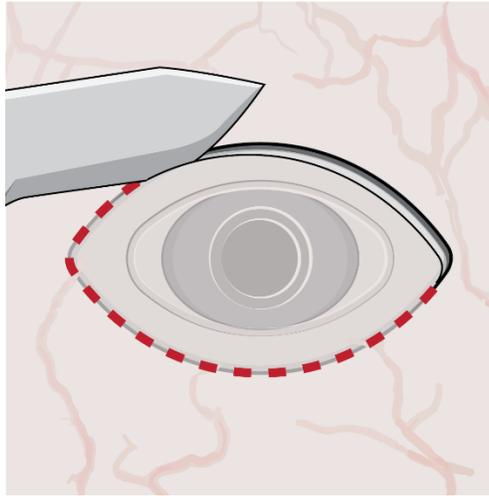
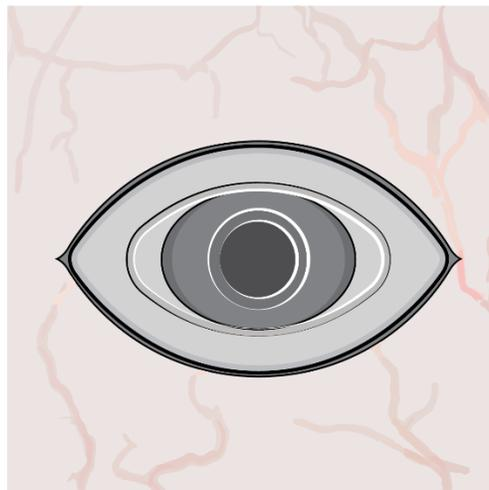

Figure 4
Figure 5
- Remove any fibrous capsule or scar tissue that may have formed over the implant flange and septum (Figure 4 and Figure 5).
- To expose the implant, use a scalpel to make an incision in the tissue around the entire circumference of the implant (Figure 4).
- Use forceps to carefully dissect the implant flange and neck from the surrounding tissue so that the edges of the flange are completely exposed and the implant is free of any adherent tissue (Figure 5).